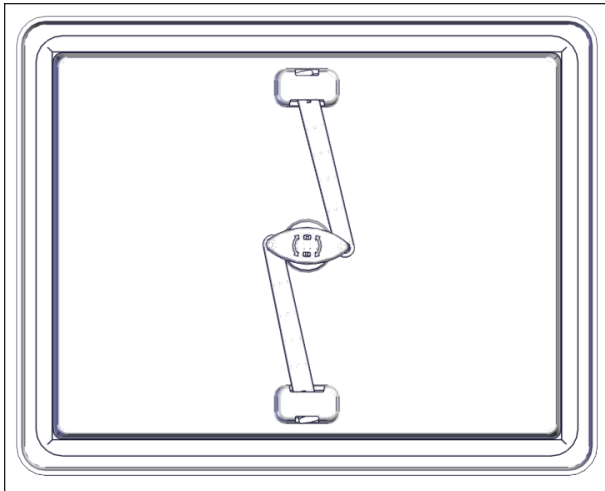

FIGURE 102: INTERIOR HANDLE
1. Turn the red handle by a quarter turn in either direction to retract the arms, see Figure 102.